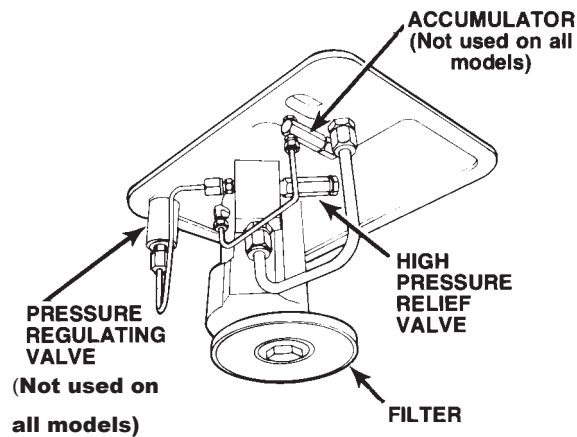

FIGURE 13
**Note:** Do not damage the gasket or pump the filter or pressure regulating valves when lifting the pump and motor off the reservoir. See Figure 13.